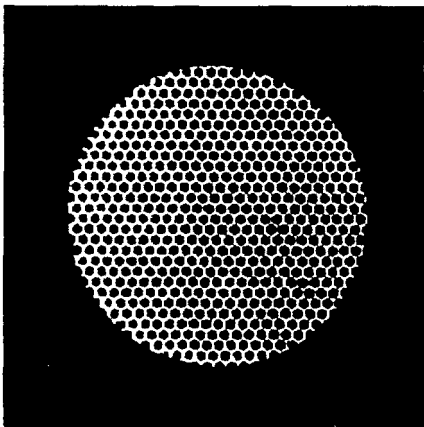

Figure 2-12. Fixed-Pattern Noise.
(5) **FIXED-PATTERN NOISE.** This is usually a blemish in the image area characterized by a faint hexagonal (honey-comb) pattern throughout the viewing area that most often occurs at high-light or when viewing very bright lights (fig. 2-12). This condition is acceptable as long as the pattern does not distract from viewing the image and interfere with the ability to perform the mission, If it remains when viewing in low-light conditions, return sight to maintainer.